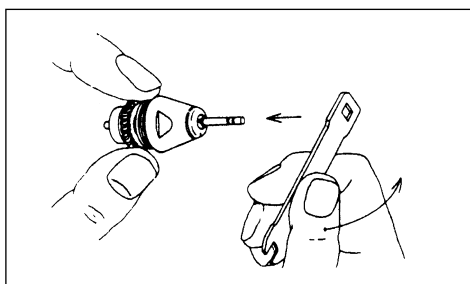

Fig.11
- ② Hold the rotor with two fingers as shown on the Fig.11.